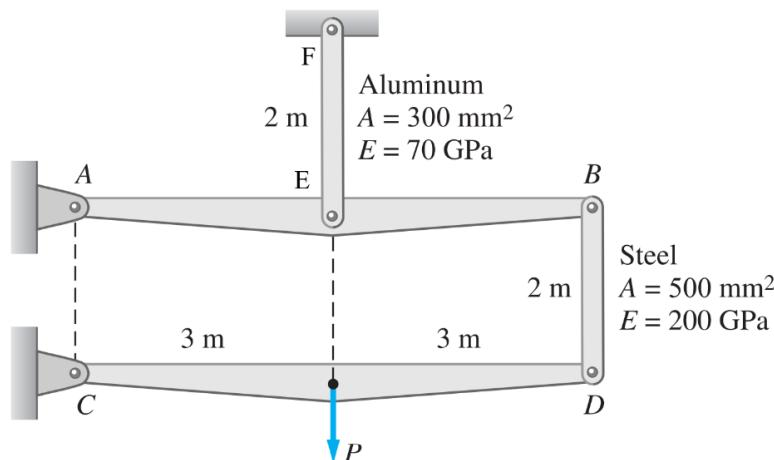

Figure 2 (a)
2. (a) Two rigid bars AB and CD are supported by a pin joint at A and B, and two vertical rods, as shown in Figure 2 (a). The vertical rod EF is made of aluminum ( $E = 70 \text{ GPa}$ ) with the cross-sectional area of  $300 \text{ mm}^2$ . The vertical rod BD is made of steel ( $E = 200 \text{ GPa}$ ) with the cross-sectional area of  $500 \text{ mm}^2$ . All connections used in this structure are pin joints. Determine the maximum force  $P$  that can be applied to the structure if the vertical displacement at point D is limited to 10 mm. Neglect the weights of the members.
(b) Two solid 30-mm-diameter steel shafts are connected by the gears shown in Figure 2 (b). The shaft lengths are  $L_1 = 500$  mm and  $L_2 = 300$  mm. Assume that the shear modulus of both shafts is  $G = 80$  GPa and that the bearings shown allow free rotation of the shafts. If the torque applied at gear  $D$  is  $T_D = 160$  Nm, determine: